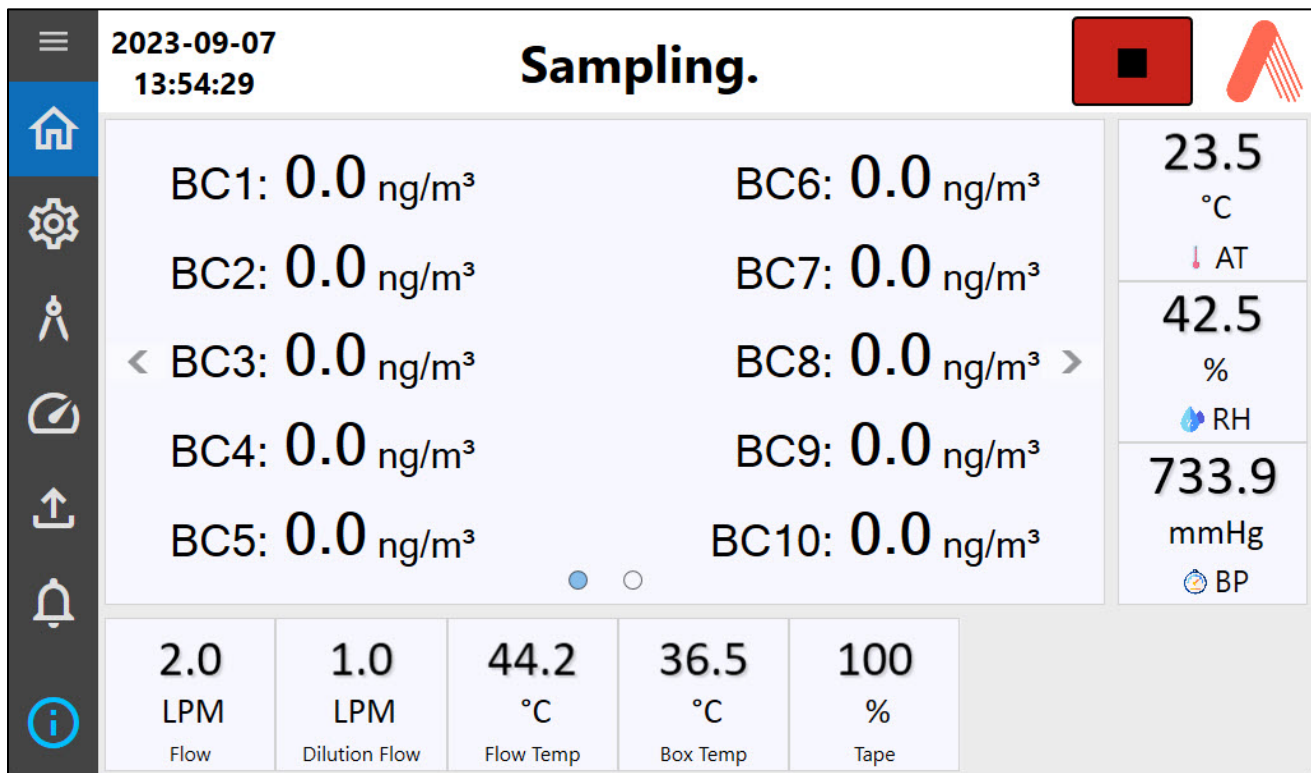

Figure 3-10 Home Screen with Dilution Flow
The BC 1054 main sampling/operation screen or Home Screen is shown below in **Figure 3-10**. The current date and time are always fixed at the top line of the display on this screen. The menu selection pane is on the left side of the main screen, as mentioned in **Section 3.4.1**. All ten sample concentrations are reported in units of ng/m^3 , and the logged concentration values update at the end of every minute.
- **WS and WD:** (not shown in **Figure 3-10**) WS is the measured wind speed, and WD is the measured wind direction. Both WS and WD require an optional external WS/WD sensor (part number AIO 2). Contact Met One Instruments for details at sales.moi@acoem.com.